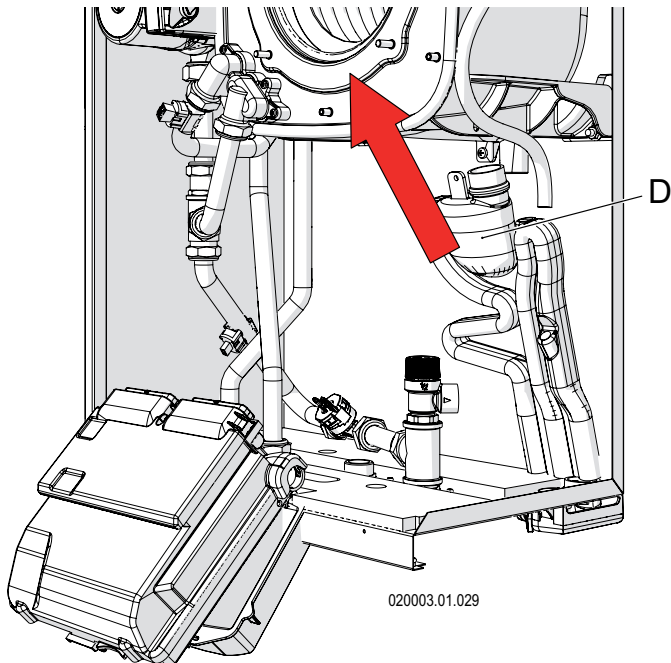

Figure 8.4 - Removing condensate collection siphon
- 1.- with the appliance on, open a domestic hot water tap or taps fully to force the burner to its maximum power and the level of the liquid present inside the siphon tank "D" lowers (see figure 8.4);